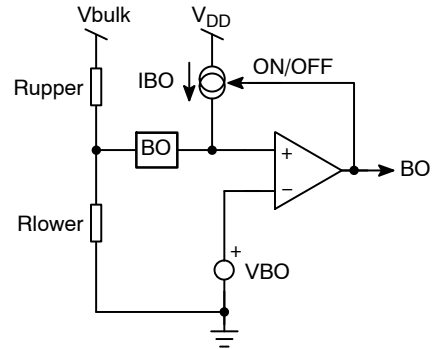

Figure 40. The Internal Brown-out Configuration with an Offset Current Source
The Brown-Out circuitry (BO) offers a way to protect the resonant converter from low DC input voltages. Below a given level, the controller blocks the output pulses, above it, it authorizes them. The internal circuitry, depicted by Figure 40, offers a way to observe the high-voltage (HV) rail. A resistive divider made of R_{upper} and R_{lower} brings a portion of the HV rail on Pin 5. Below the turn-on level, the 28 μA current source IBO is off. Therefore, the turn-on level solely depends on the division ratio brought by the resistive divider.